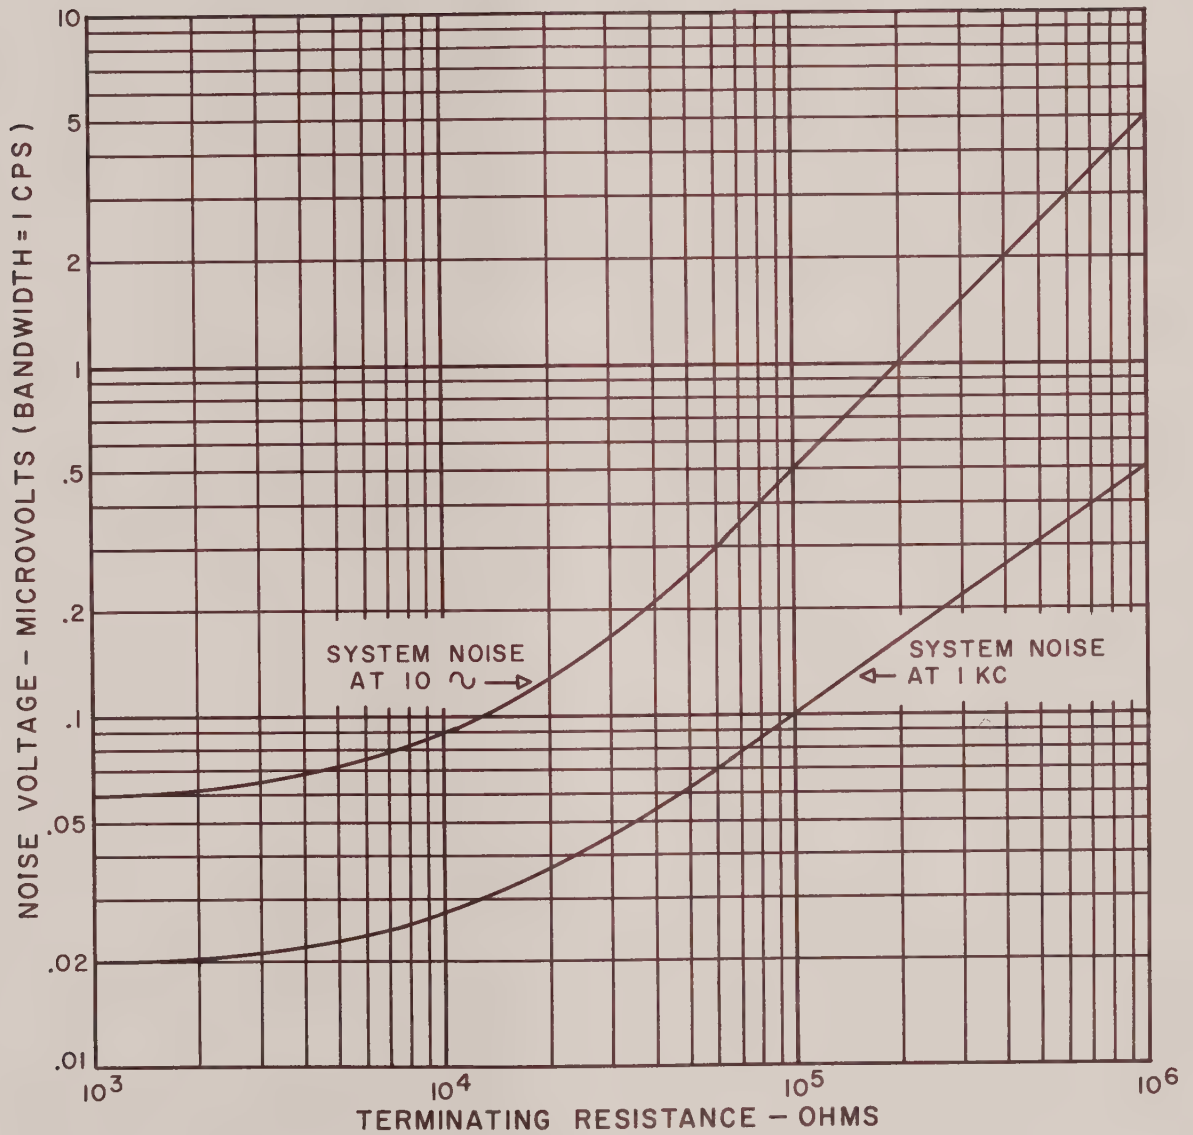

FIGURE 2-1 TYPICAL CURVE
By far the most important parameter in the determination of system noise is the equivalent impedance seen by the preamplifier. In general, this impedance is the isolation resistor selected by the current range switch (values of resistance for each switch position given on page 2 - 2) in parallel with the impedance of the component under test. Typical Curves of System Noise vs: Equivalent Terminating Resistance are given in Figure 2-1. In addition to the system noise level established by the noise voltage and noise current parameters of the preamplifier there is a noise contribution from the main power supply. This part of the total system noise is greatest when a high voltage, low impedance component is in the test jig.
- c. Turn the current range switch counterclockwise; in general the system noise should increase with each additional counterclockwise position change. Approximate system noise readings for each of the current range positions may be obtained from FIGURE 2-1.